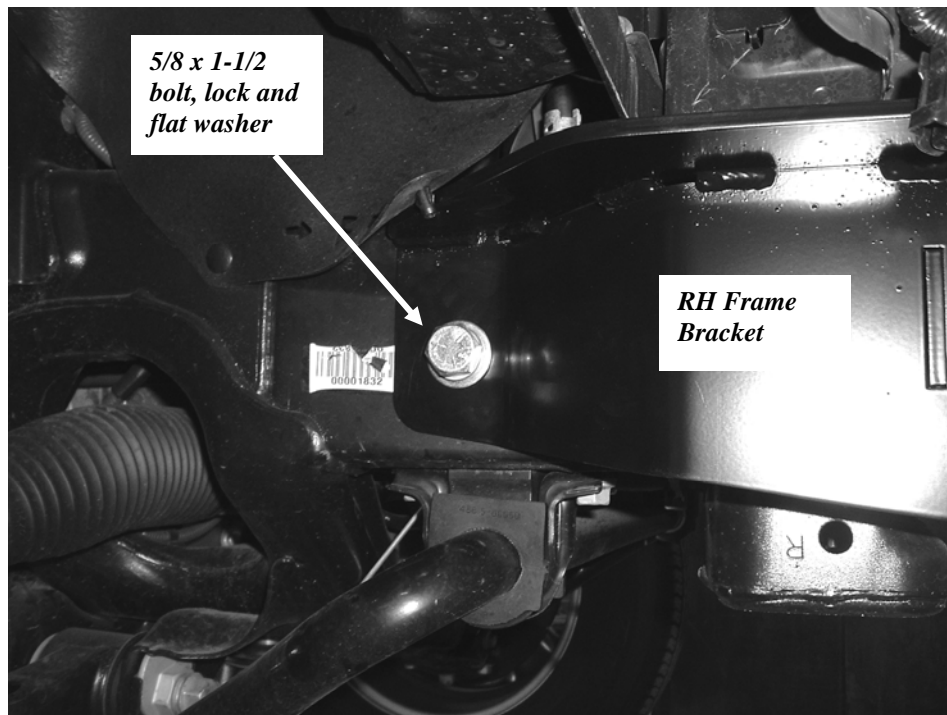

Figure 12 LH Frame Bracket installed
15. Slide the LH and RH Frame Brackets over the frame extension studs then install the frame extensions. Use the original 10mm nuts to hold in place. Do not tighten at this time. **Figure 12**